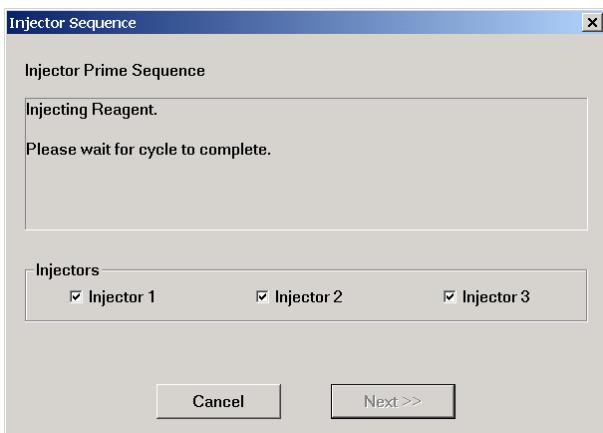

Figure 5-13: Prime injector tubings by 12 shots
- Then the selected injector tubings are primed with 12 shots. The **Injector Sequence** dialog box shows the respective information. Wait for the prime process to finish (Figure 5-13).